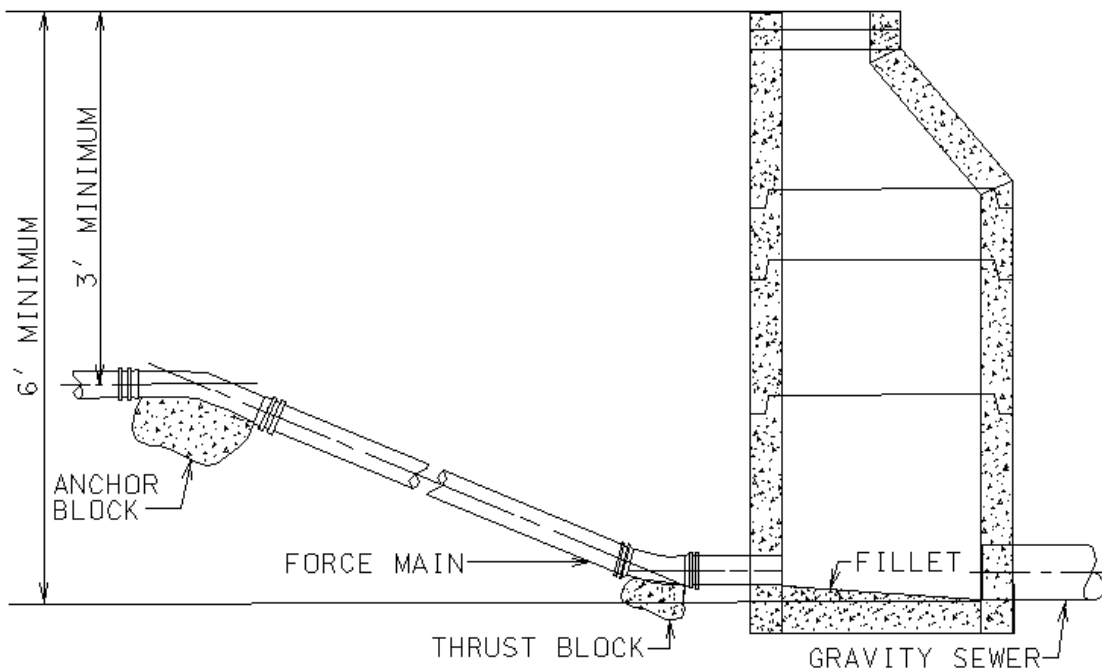

Figure 1-02534-a
- Q. Force main outlets shall be installed in manholes as shown on the Standard Drawing herein (See Figure 1-02534-a). Force mains 2 inches and smaller may be tied directly into a manhole as approved by OWNER at a minimum of 3 feet.